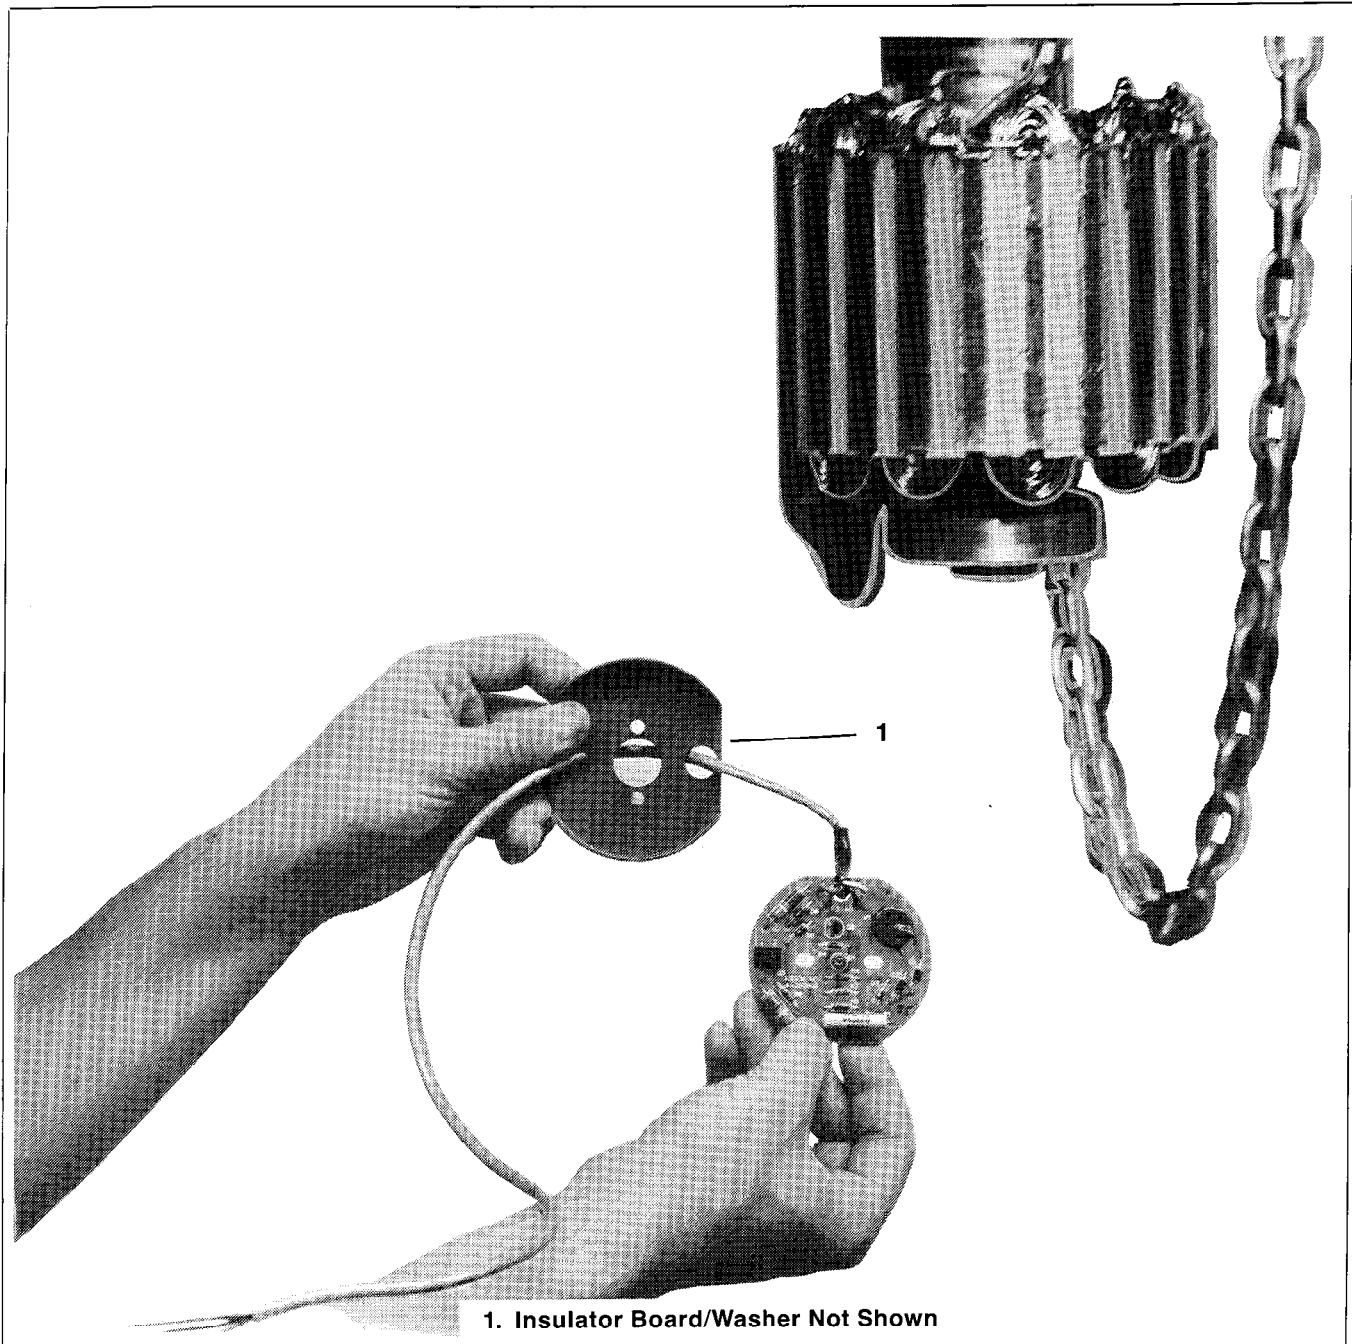

Figure 6-12. Installing Photo Transistor Board
10. While the rotor is suspended, install the photo transistor board, insulator board, and actuator cup. Early split activator generators used washers to insulate the photo transistor board from the actuator cup. If the unit is disassembled, replace washers with insulated board (available from service parts.) Place photo transistor board lead through actuator cup as shown in Figure 6-12. Push lead through hole in rotor